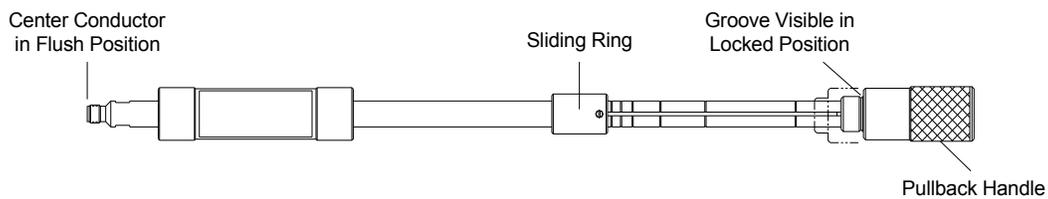

Figure 2. Sliding Termination in Locked Position
- Refer to **Figures 2 and 3** which shows the sliding termination in its locked and unlocked positions, respectively.